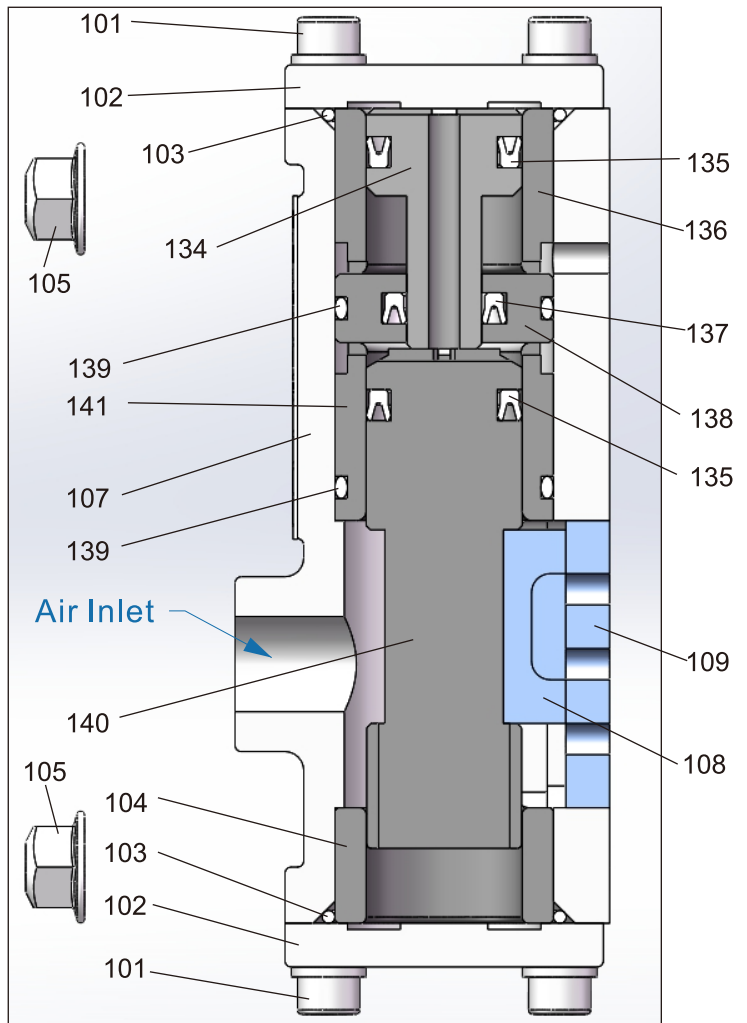

Figure 6
1. Remove (105) nuts, then remove the assembly of major valve. See Figure 6.
2. Remove (109) valve plate and (108) valve insert. See Figure 6.
3. Remove (101)screws, (102)covers. See Figure 6.
4. Remove (103)O-rings. See Figure 6.
5. Remove (140),(138),(136) &(134) .See Figure 6.
6. Remove (141). See Figure 6.
7. Remove (104). See Figure 6.
8. Remove (135)Y-type ring from (134); Remove (137) Y-type ring from (138); Remove (139)o-rings from (138) &(141). See Figure 6.